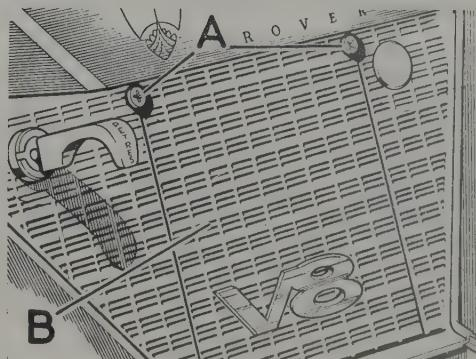

Fig. 12.51. Radio grille screws (A) grille (B)
- 5 Undo and remove the two crosshead screws securing the radio speaker grille to the console unit (Figs.12.51 and 12.52). These screws are to be found between the petrol reserve control and choke control. Lift away the speaker grille. If a radio is fitted the loud speaker cables must be disconnected.